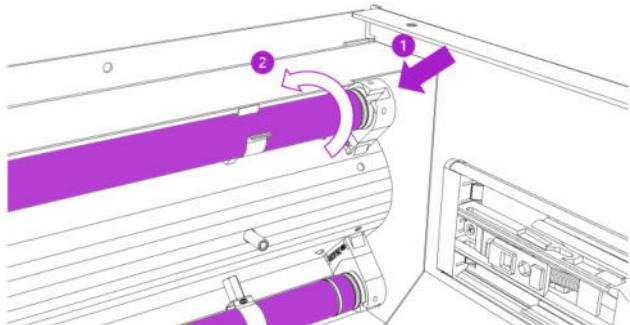

Fig. 18
1. Install new UV-C lamps as indicated in Fig. 18 (1). Turn UV-C lamps in direction of arrow (2) until you hear a clicking sound. **Notice:** **Li.LAC will only operate if both UV-C lamps are installed.**